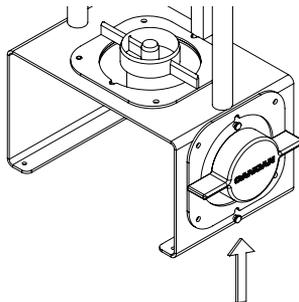

Figure 6
- You can hang the extra Blade on the blade hanger pin system **(Figure 6)**